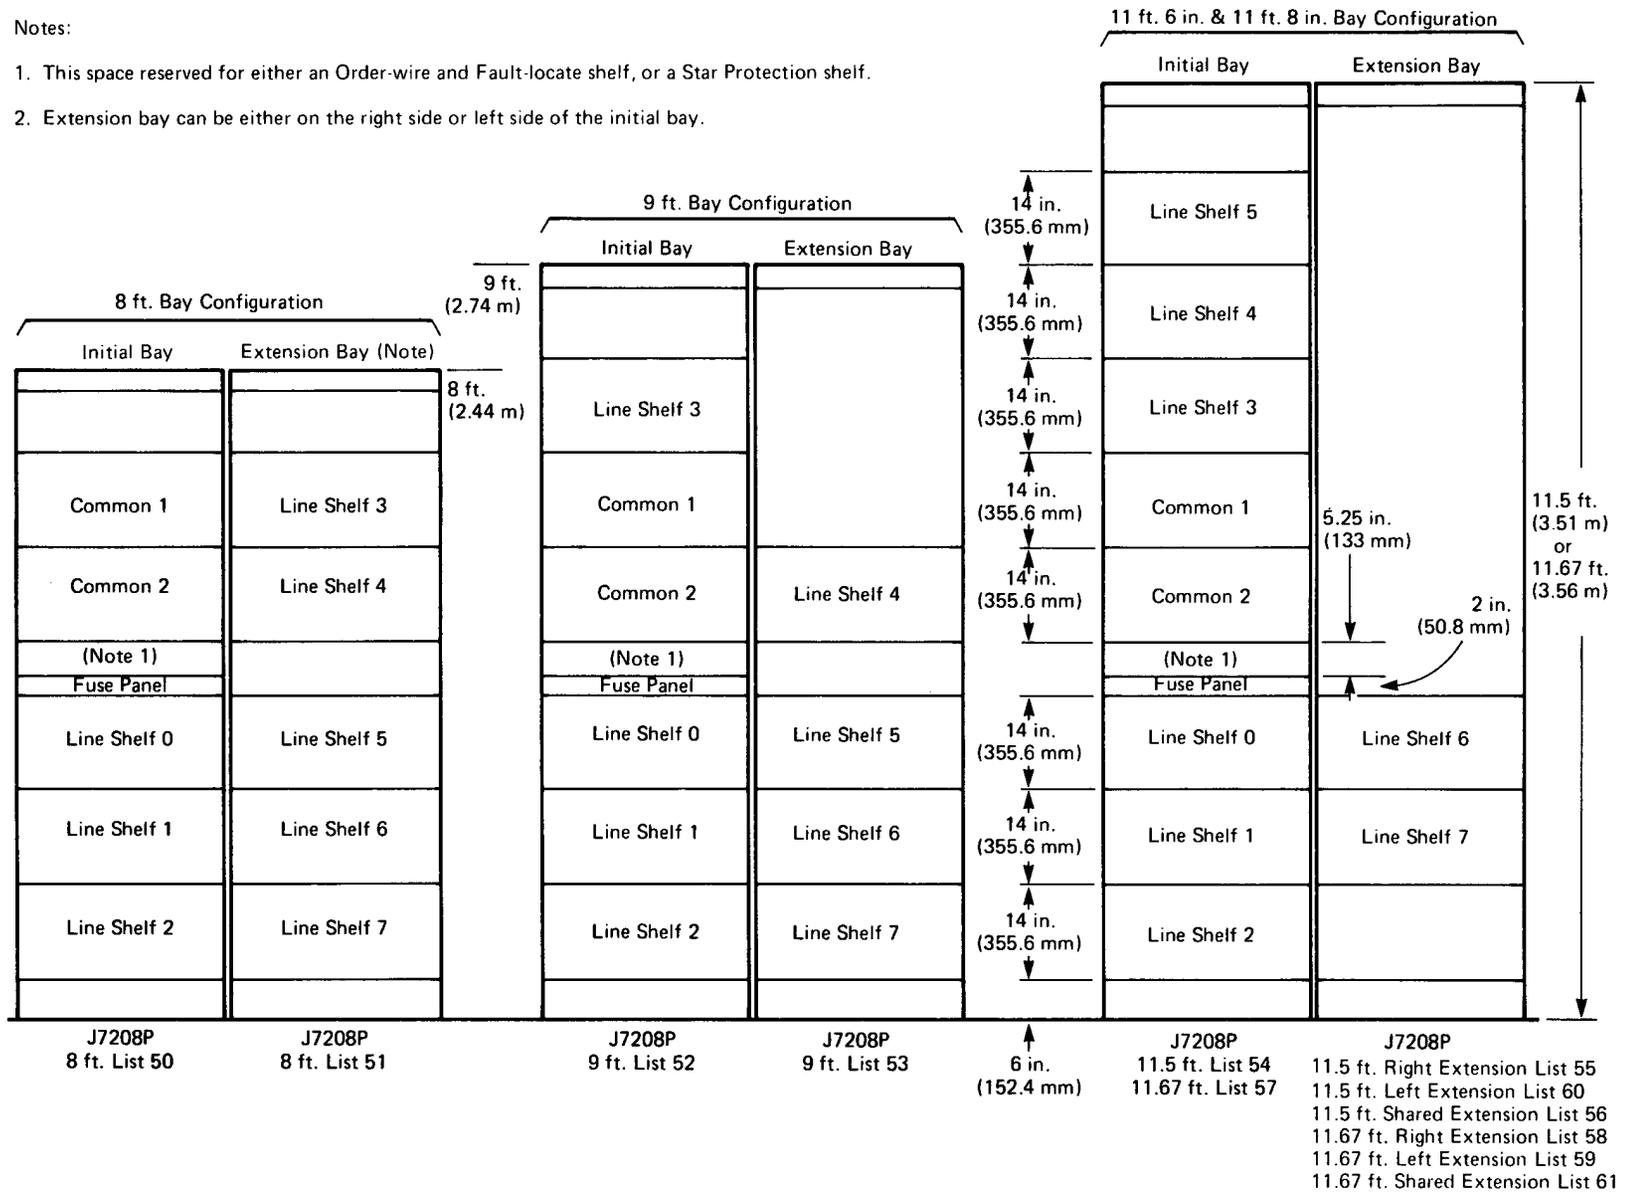

Fig. 2 – RCT Bay Configurations
2.10 For hut or office building installation the RCT equipment is mounted in standard 19-inch bays which are available in three heights (Fig. 2). In each case, the equipment is arranged in a pair of bays; an initial bay and an extension bay. The RCT bay arrangements are as follows: